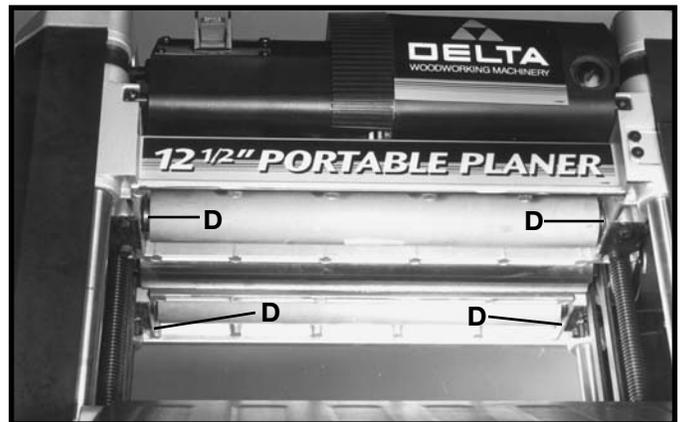

Fig. 43
4. Lay the planer on its back and squirt oil on the feed roller bushings (D) Fig. 43, at each end of the feed rollers.